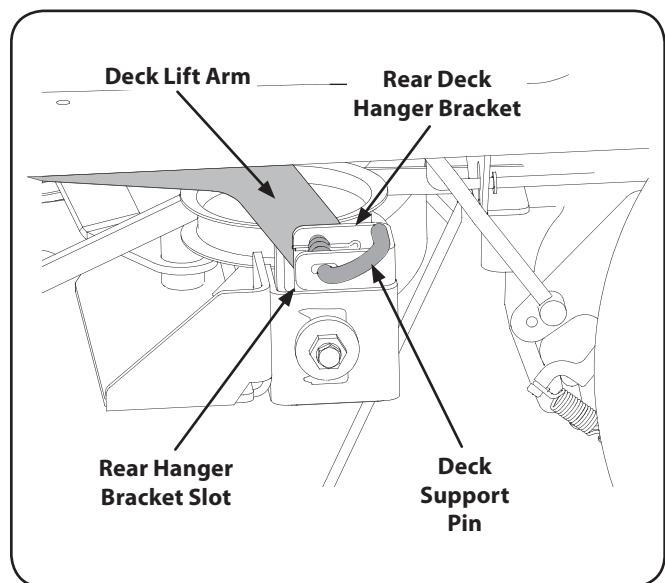

Figure 7-5
- Locate the LH and RH deck support pins on each side of the deck. Pull the deck support pins outward and lock in the disengaged position to release the deck from the tractor's LH and RH deck lift arms. Refer to Figure 7-5.
- Raise the deck lift arms out of the rear hanger bracket slots by raising the deck lift handle on the tractor to its highest position. Refer to Figure 7-5.
4. Maneuver the deck so that the slots in the two rear deck hanger brackets approximately align with the deck lift arms of the tractor. Refer to Figure 7-5.
6. Pull the deck support pins outward and maneuver the deck as necessary to align the holes in the deck lift arms with the pins. Refer to Figure 7-5.